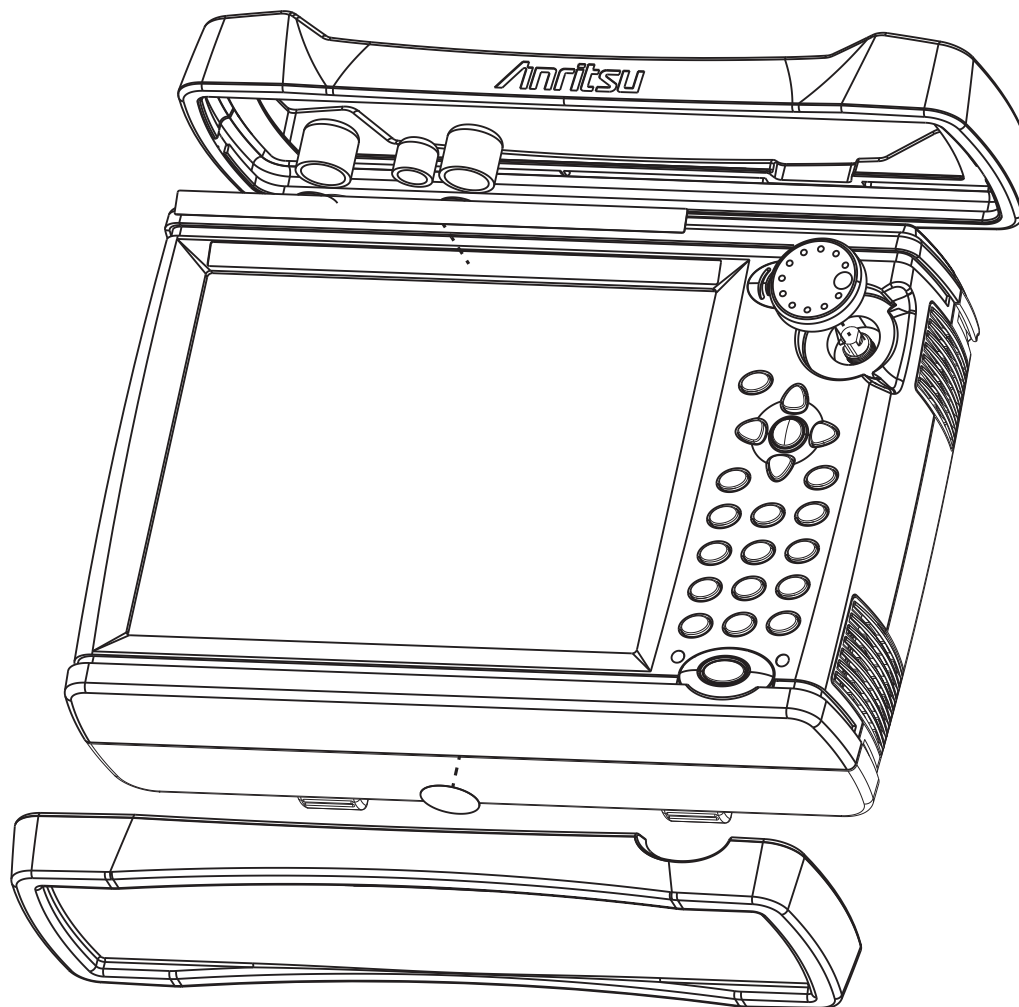

Figure 4-15. Removal of Bumpers and Rotary Knob
2. Remove the top and bottom bumpers (Figure 4-15 on page 4-18) to expose the screw holes on the back of the unit. Pull on a corner of each rubber bumper to stretch and disengage the rubber from the case.